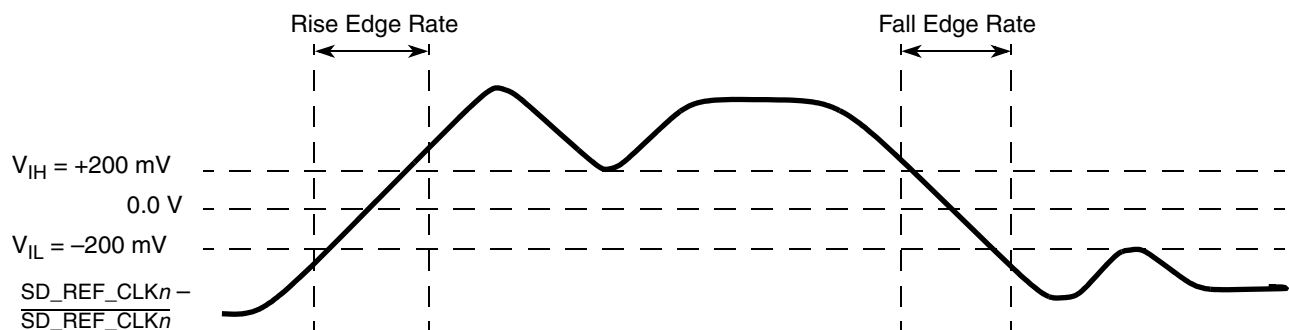

Figure 40. Differential measurement points for rise and fall time
waveform is not referenced to ground. See Figure 40, “Differential measurement points for rise and fall time,” as an example for differential waveform.
- Measured from −200 mV to +200 mV on the differential waveform (derived from SD_REF_CLK n minus $\overline{\text{SD_REF_CLK}}_n$). The signal must be monotonic through the measurement region for rise and fall time. The 400 mV measurement window is centered on the differential zero crossing. See Figure 40.